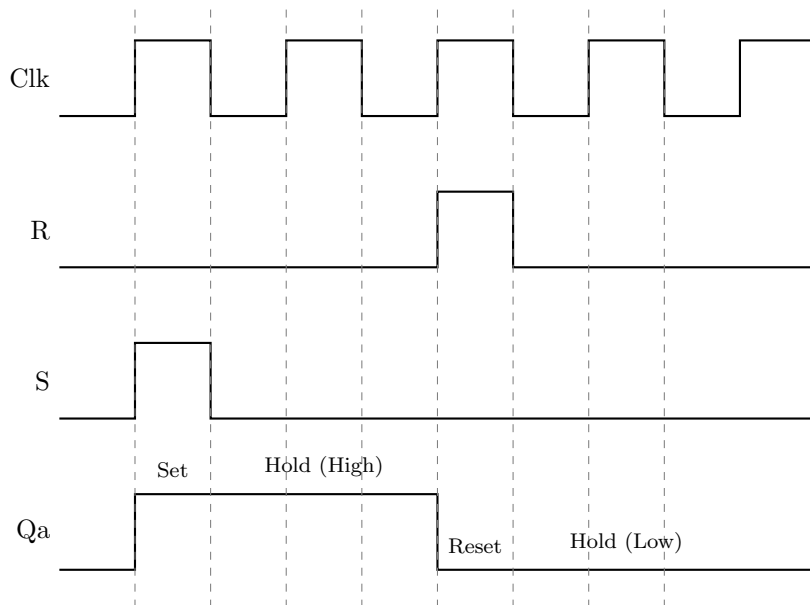

Figure 4: Expected waveforms for the RS latch.
7. Simulate the behavior of your VHDL code by using the simulation feature provided in the Quartus software. First, create a vector waveform file (\*.vwf) using the Quartus software to specify the inputs and outputs of your circuit. Then, use the commands available in the Quartus Simulation Waveform Editor tool to run a simulation of the circuit. The resulting waveforms should look similar to those shown in Figure 4.